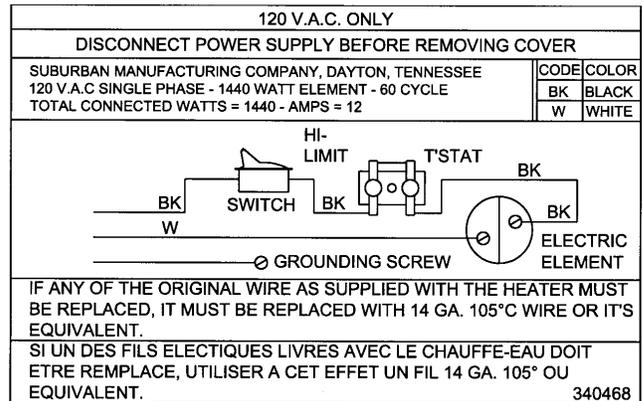

Figure 8
- D. Check rating plate and wiring diagram (Figure 8) before proceeding. Install a fused safety switch or circuit breaker of adequate capacity between heater and electrical power source. Attach the black and white wires from the fused switch or breaker to corresponding colored wires in heater junction box. A green wire from a well grounded source must be attached to the green nut in the junction box.